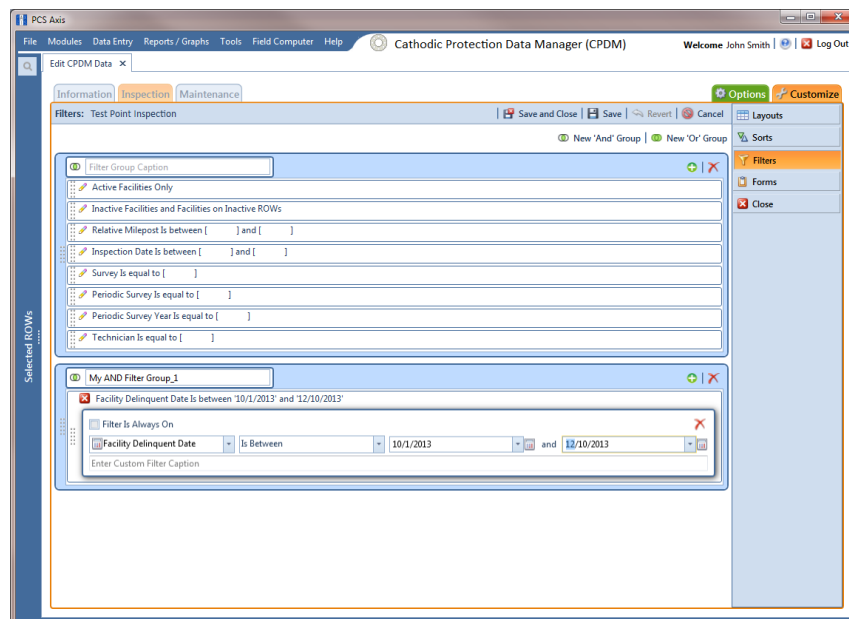

Figure 7-115. Filters
- 5 Click **New 'And' Group** to open a filter properties group box (Figure 7-115).
- 8** If the AND filter group includes a date filter, such as *Facility Delinquent Date Is Between* shown in Figure 7-115, set a date range using a calendar or dynamic dates in the following manner: